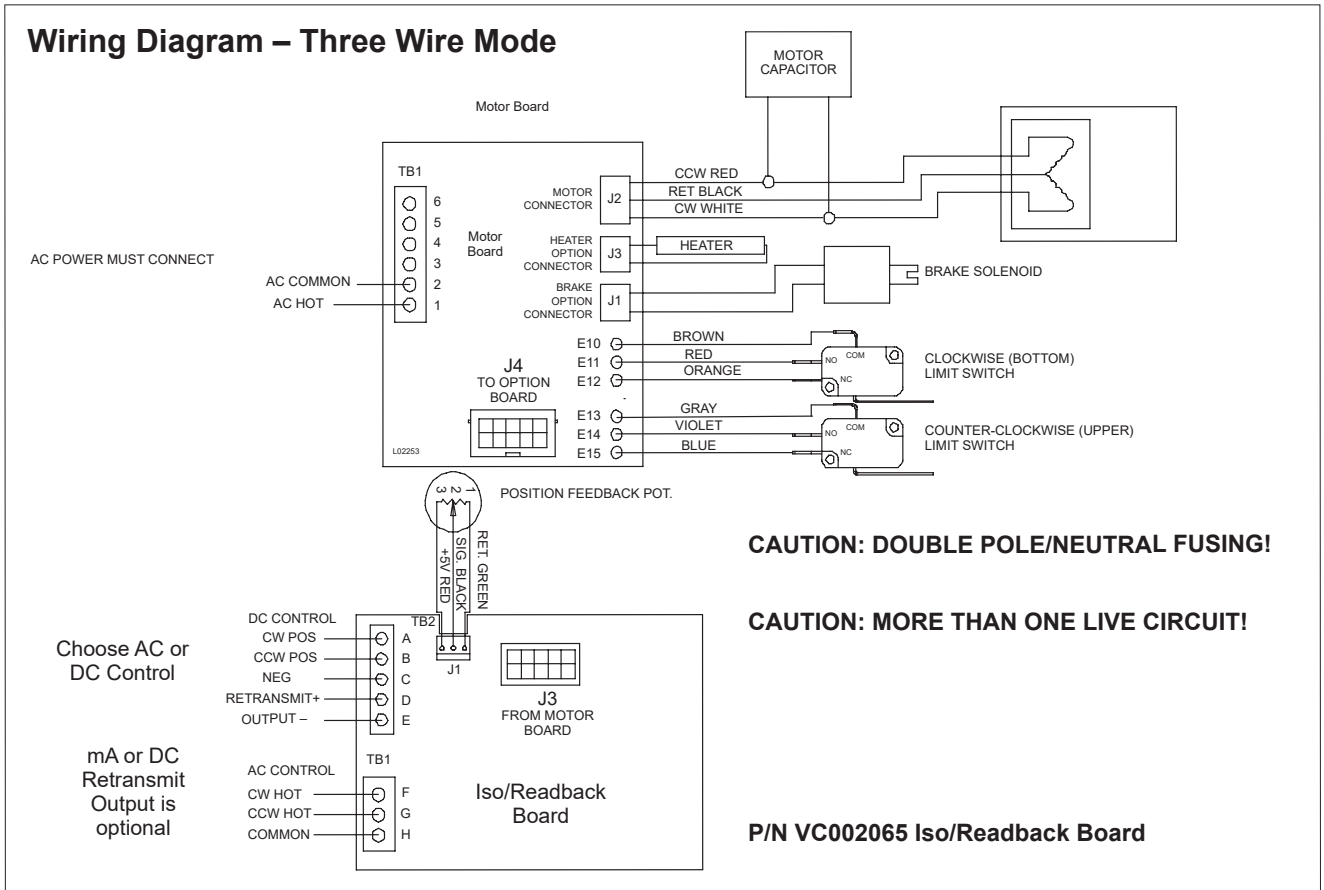

Figure 3.
1. Loosen the set screw in the cam using a 1/16" hex wrench. The bottom cam controls the clockwise end-of-travel, and the second cam, (from the bottom) controls the counter-clockwise end-of-tavel (See Figure 3).